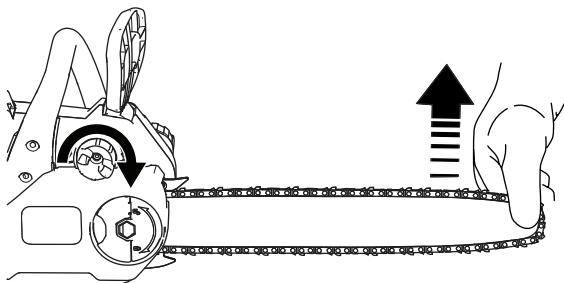

Figure 29
3. Hold up the tip of the guide bar (Figure 29).